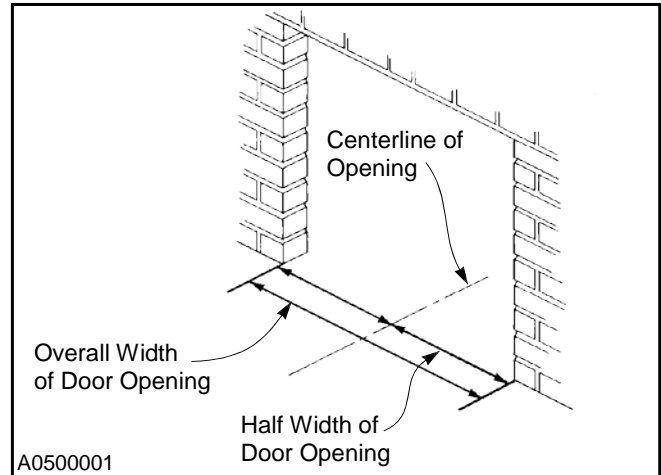

Figure 7
2. Divide the measurement in half to locate the centerline. Then mark the centerline along the floor. (See Figure 7.)